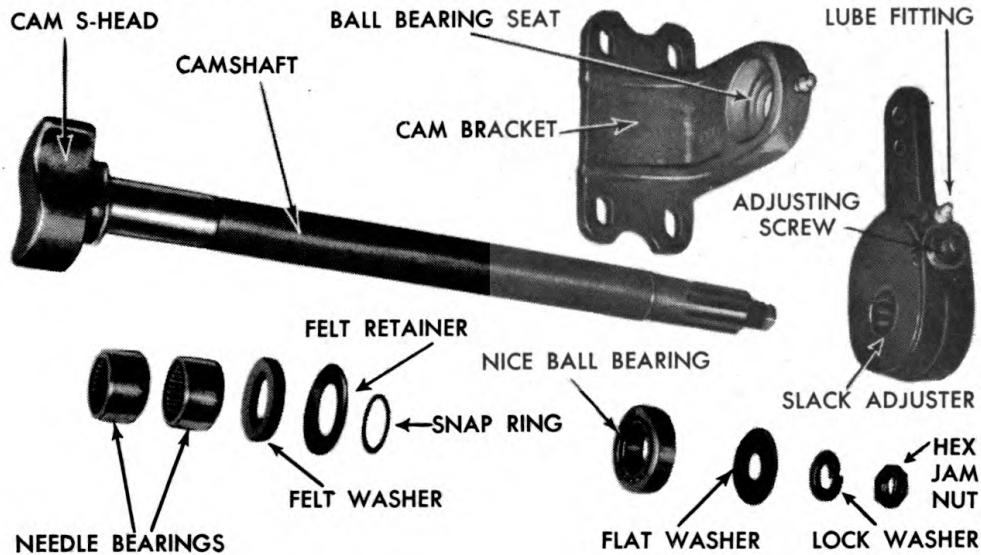

Figure 24—Camshaft Assembly Disassembled
(2) **REMOVE OLD BEARINGS.** The cam needle bearings (fig. 24) will, if properly lubricated, last indefinitely. However, if they are damaged through accident (in removing the camshaft), or other abuse, replace them. There are two bearings in each mounting plate; both may be driven from the bore of the mounting plate in one operation. A hardwood pin of suitable diameter is usually sufficient to permit driving from the mounting plate.